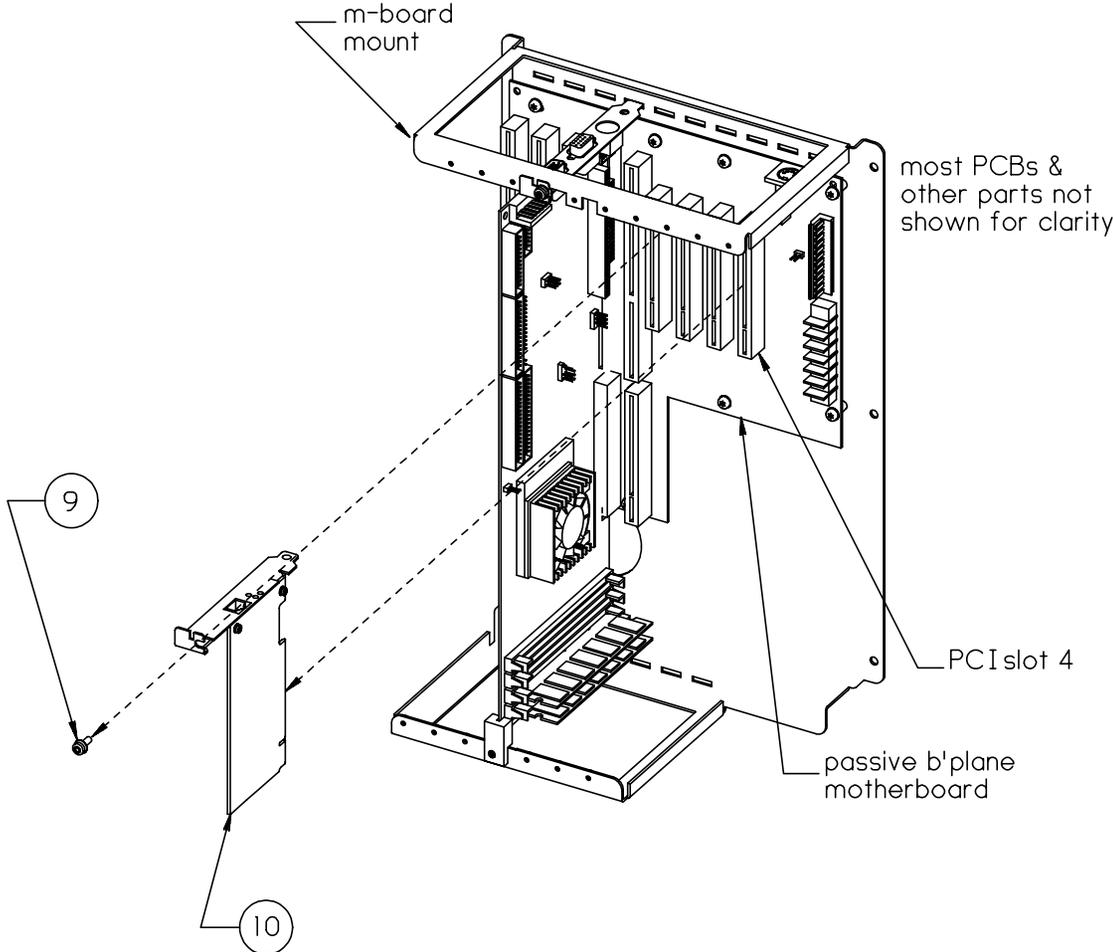

Figure 28
9. Remove the torx screw that attaches the Ethernet Card's mounting bracket to the motherboard mount. See Figure 28 (next page).
9. Unplug the Ethernet Card from the motherboard and remove it from the Electronics Box. See Figure 28 (next page).